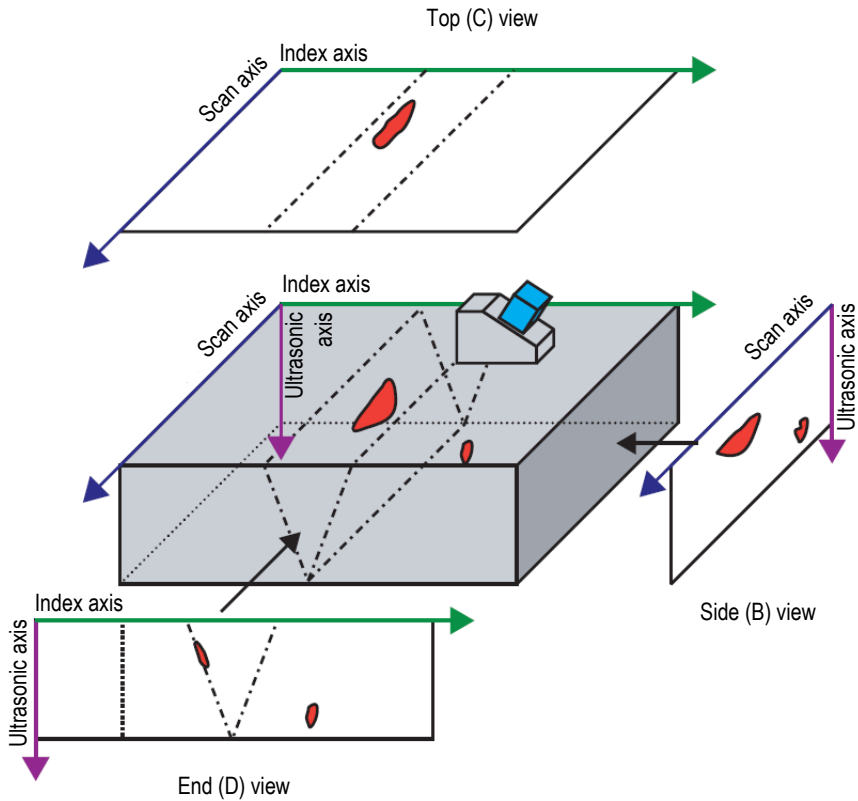

Figure 3-22 Example of ultrasonic views [Top (C), Side (B), and End (D)] with probe skew angle of 90°
Volumetric views are color-coded images built from successive A-scans projected on different planes defined by the ultrasound, scan, and index axes. The most important views, similar to 2-D projections of a technical drawing, are presented in Figure 3-22 on page 103.
In Figure 3-22 on page 103, if the probe skew angle is 0° (or 180°), the Side (B) view becomes the End (D) view, and vice versa. The Side (B) view is defined by the depth and probe-movement axes. The End (D) view is defined by the depth and the electronic-scan axis.